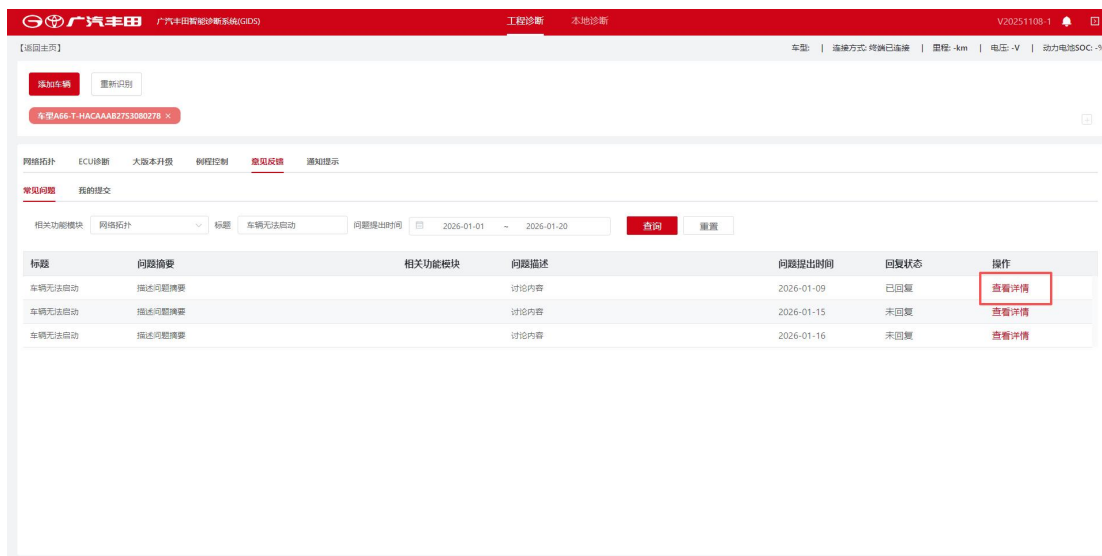

Figure 8-3 View Details
3. In the list, select an FAQ entry and click View Details, as shown in Figure 8-3. The user clicks [View Details] to open a pop-up window and view